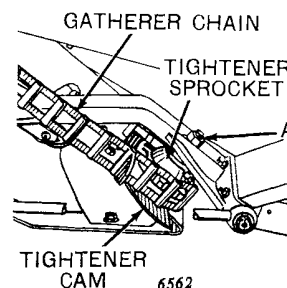

Figure 6
**Tension.** (See Figure 6.) The gatherer chains should be tightened so they will have a 1-inch deflection when pulled away from guide plates. Too loose or too tight chains will cause excessive wear of guide plates.